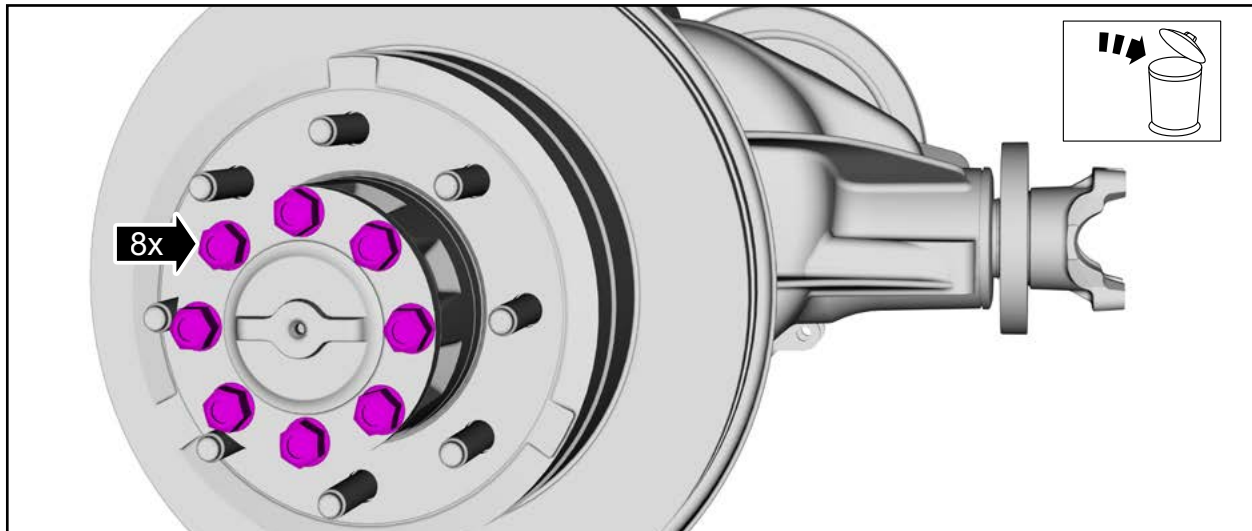

FIGURE 2
4. Remove and discard the passenger side rear axle shaft bolts. See Figure 2.
9. Install the *new* axle shaft bolts finger tight. See Figure 2.